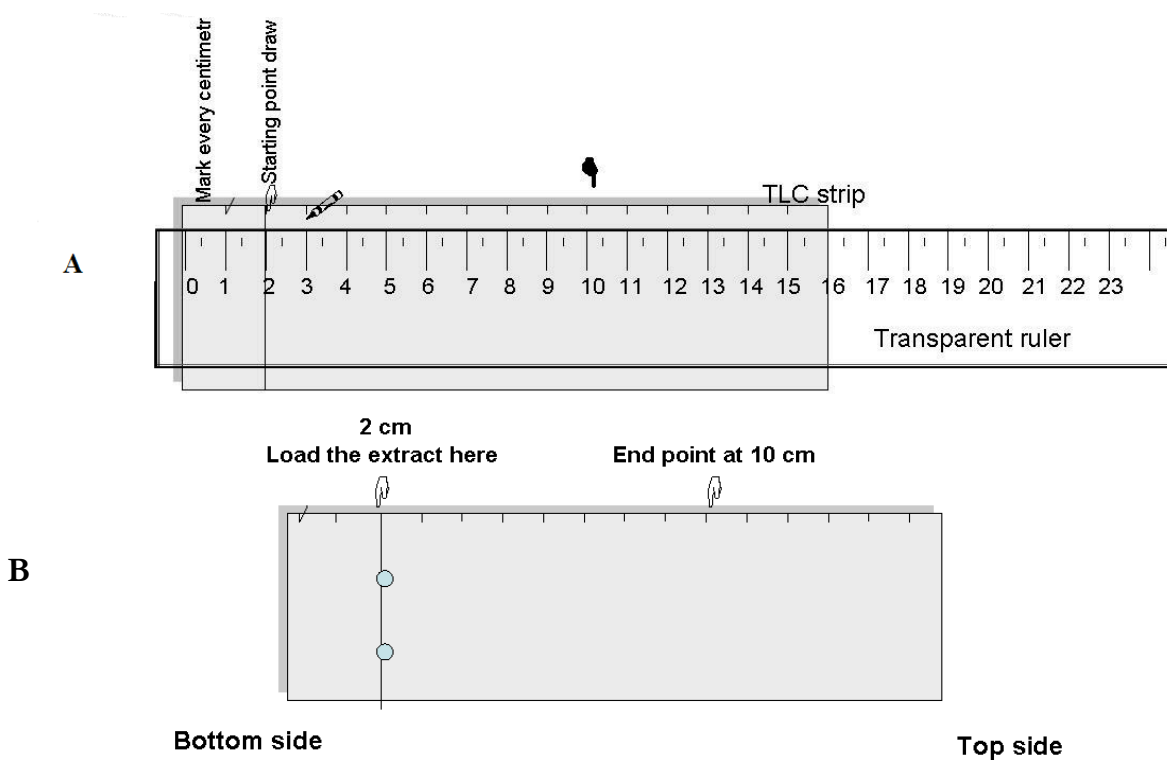

Figure 2: TLC preparation
8. Wearing gloves, take the TLC strip out of the foil. Holding it by the edges place its silver side facing down with the white side up on a clean sheet of paper. Figure 2: TLC preparation.